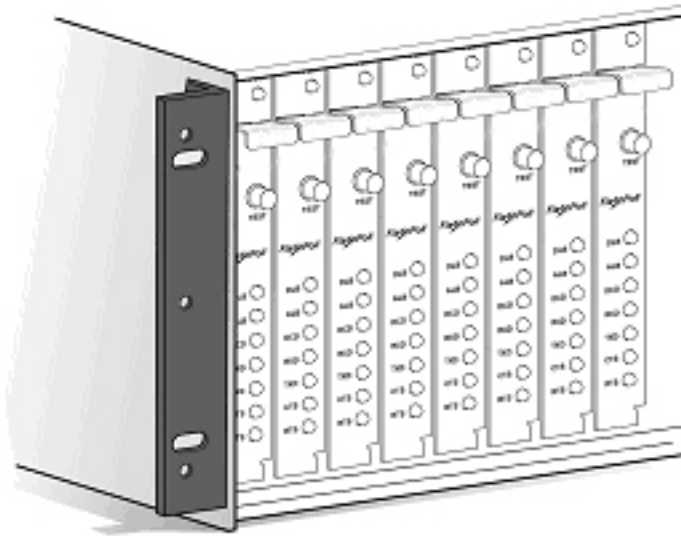

Figure 2-4. Modems Installed in the Rack
6. Push firmly on the modem to seat it properly into the slot and backplane. The back of the modem cage or modem rack contains the connectors for interfacing to the Data Terminal Equipment and communications line. Figure 2-4 shows how the modems look when installed in the rack.